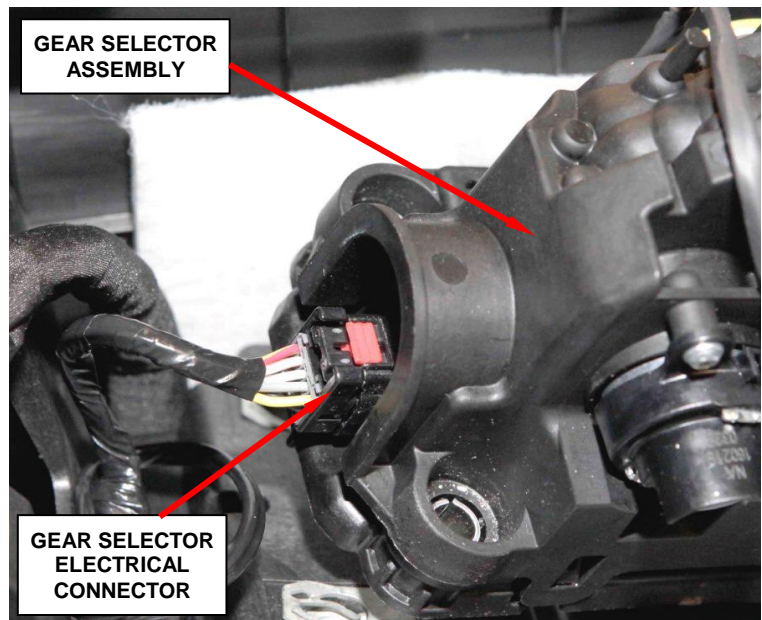

Figure 6 – Gear Selector Electrical Connector
11. Connect the gear selector assembly wiring connector by inserting the electrical connector until it is snug and then slide the red tab forward until engagement is felt (Figure 6).